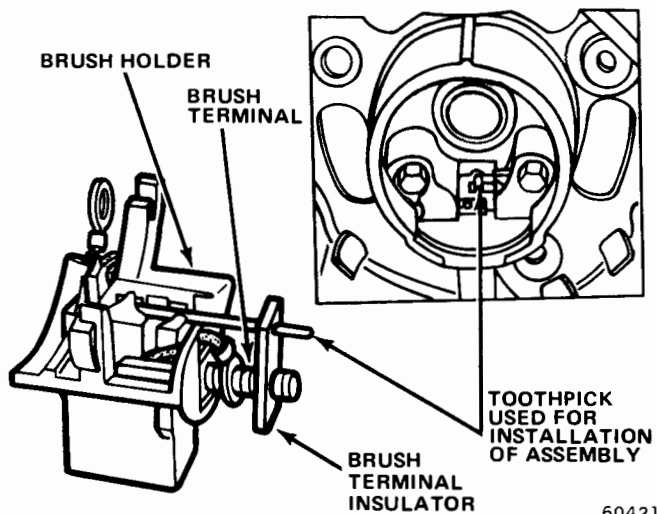

Fig. 3-20 Brush Holder Assembly Installation
(5) If rear housing bearing was removed, support housing near bearing boss and press in replacement bearing flush with outer housing.
(6) Place brush springs, brushes, brush terminal and terminal insulator in brush holder and hold brushes in position by inserting a wooden or plastic toothpick in the brush holder (fig. 3-20).
(7) Position brush holder assembly in rear housing and install mounting screws.